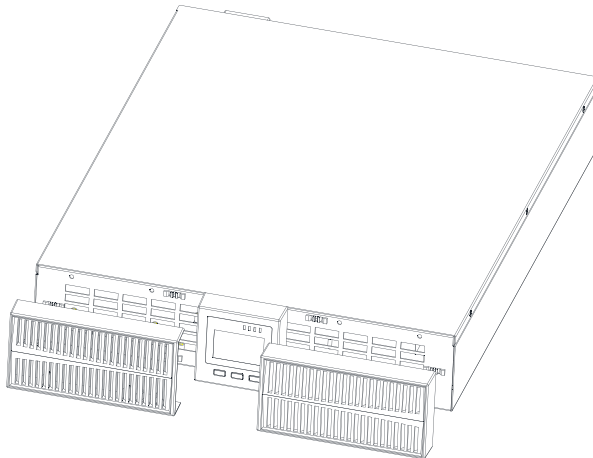

Fig.2-3 Removing the front plastic bezel cover
1. Remove the front plastic bezel cover gently, as shown in Fig.2-3.